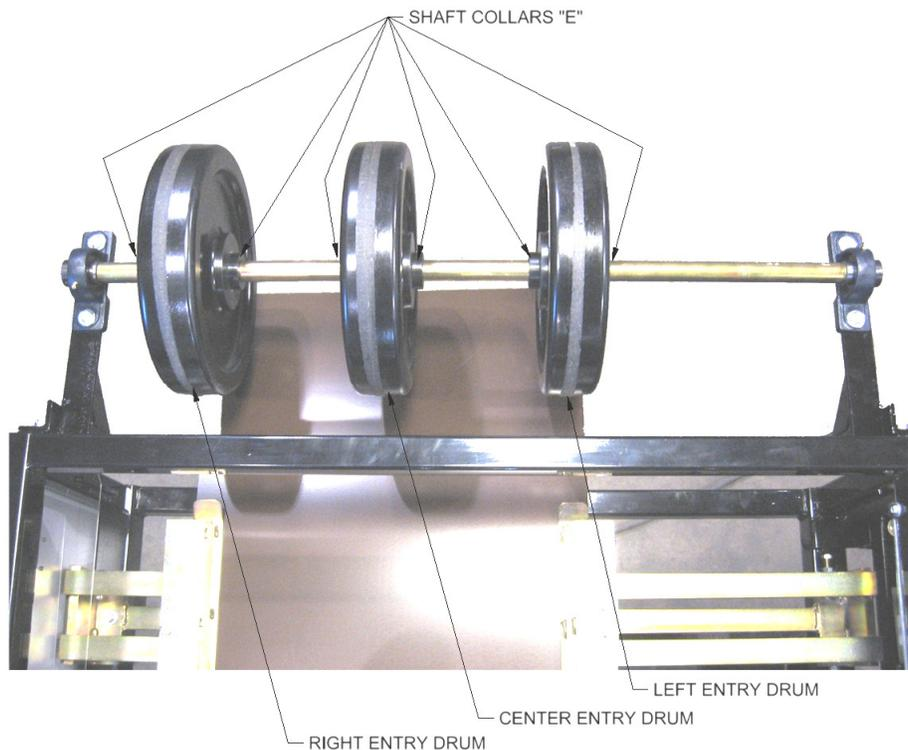

Figure 32: Entry Drum
1. Using a 3/16" allen wrench, loosen the four Shaft Collars "E", on either side of Left Entry Drum and Center Entry Drum. (Figure 32)